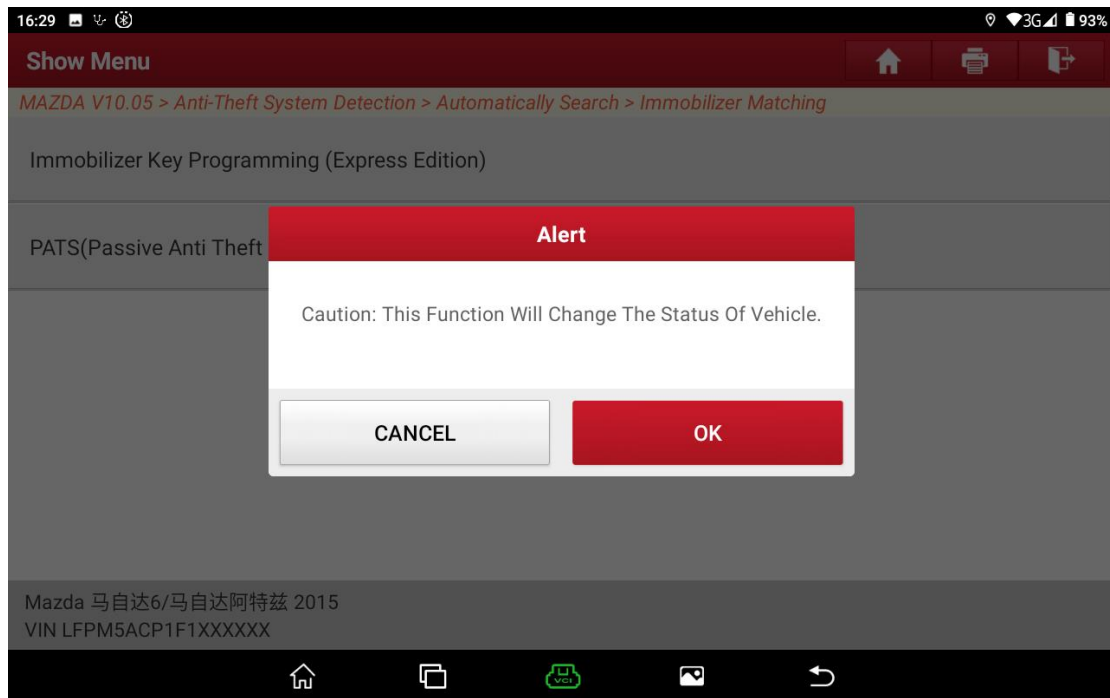

Figure A8
6. A warning prompt is displayed. See Figure A8.